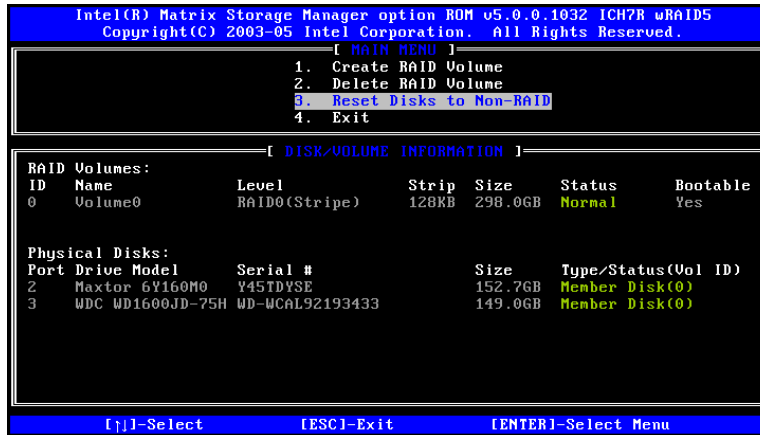

Figure G-12: Reset Disk to Non-RAID Menu
Step 1: Select “Reset Disk to Non-RAID.” Use the arrow keys to highlight **Reset Disk to Non-RAID** and press **ENTER**. See **Figure G-12**.